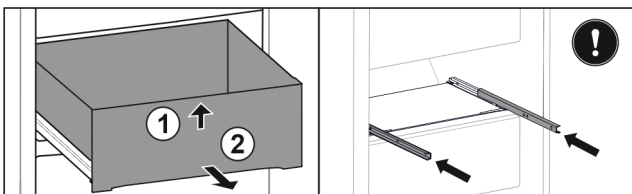

Fig. 147
- ▶ Lift up drawer at the front. Fig. 147 (1)
- ▶ Remove drawer to the front. Fig. 147 (2)